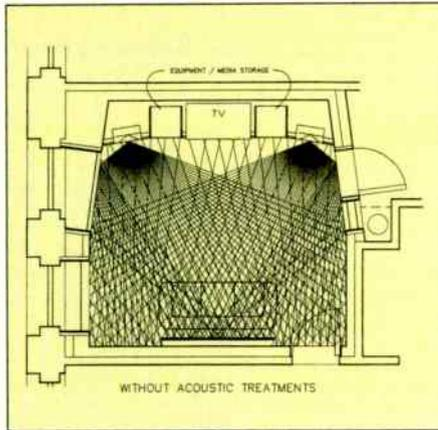
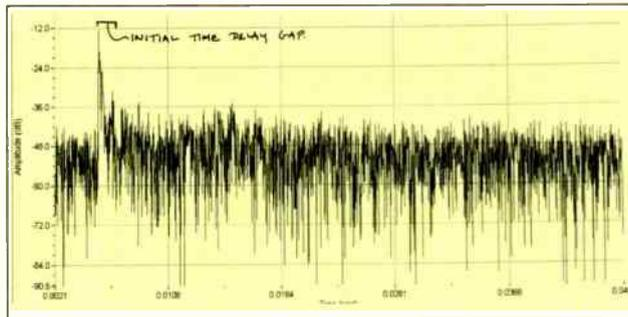

FIGURE 3: Ray Trace Diagram — typical control room.
FIGURE 4: Impulse Response — showing initial delay gap.
**3. Mid/High Frequency Control.** Mid/high frequency control is usually about geometry and reflection control. Reflection control is easily predicted by simple ray trace analysis (see fig. 3). Most people now agree that having a good-sized listening area that is free of harsh immediate early reflections is desirable. Peter D’Antonio of RPG (and others) have named this a “reflection free zone.” When viewing an impulse response of such an environment, one would see this desired “initial delay gap” quite clearly (fig. 4). There is no one way to accomplish this.
Again, view fig. 4.